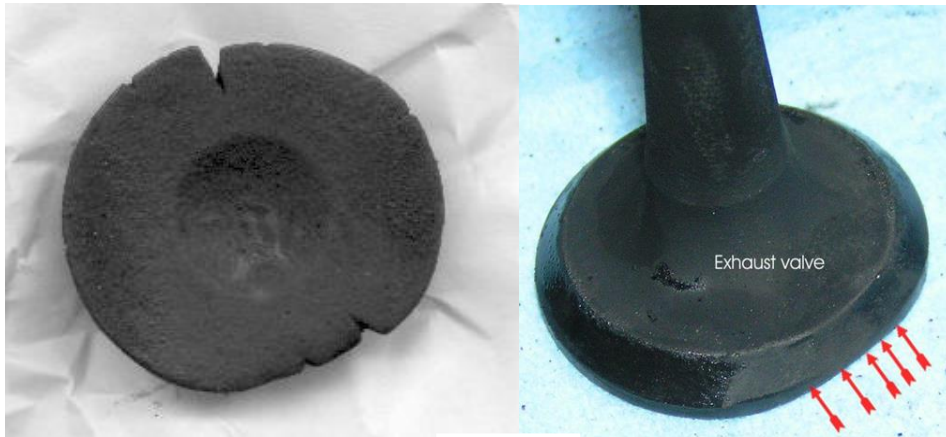

Fig.31
- Check if the face of the valve is burnt or cracked (Fig. 31).